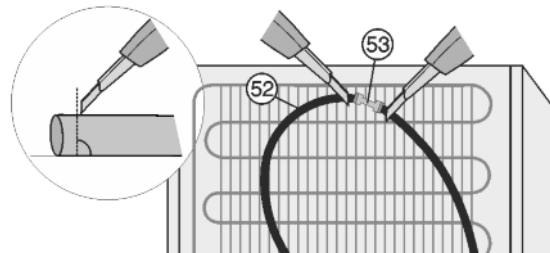

Fig. 23\*
► Cut open the water hose Fig. 23 (52) behind the appliance both in front of and behind the connector Fig. 23 (53) (90° to direction of the hose).\*